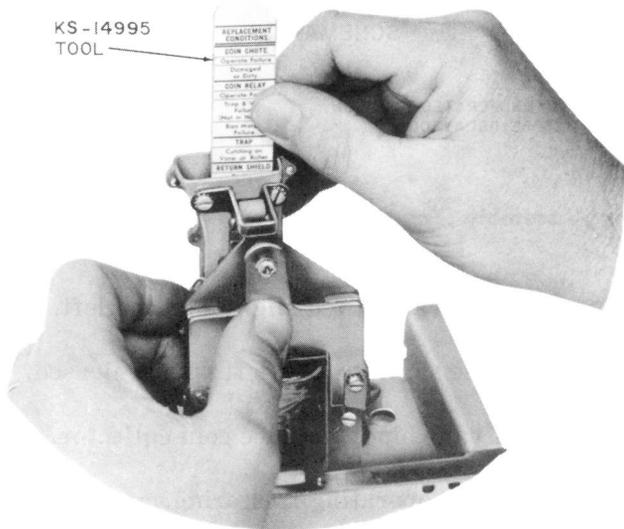

Fig. 11 — Trap and Vane Release Test
- (1) Manually close coin relay armature to its full extent of travel.
- (2) Insert KS-14995 tool into hopper to operate trap to the limit of its travel (Fig. 11).
- (3) Slowly withdraw tool.
- (4) Armature, trap, and vane should return to nonoperated position and trap should be locked.